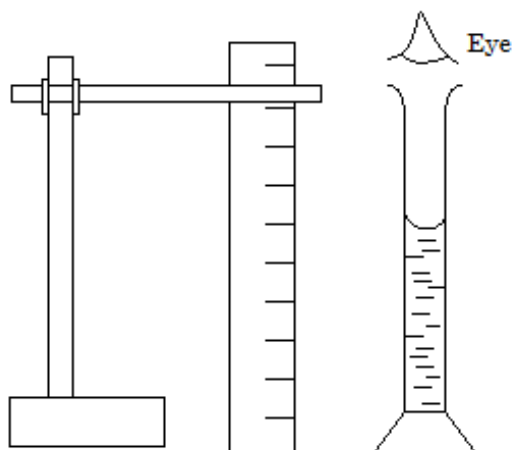

Figure 2
- (a) Arrange your apparatus as in Figure 2. Put about 150 cm^3 of clear water in the measuring cylinder. Drop an office pin at the bottom so that it rests touching the wall of the cylinder.
- (b) Look in the cylinder from Figure 2. Use another office pin as a search pin, move it up and down outside the cylinder, and locate the image position by no parallax method. Locate the image position of the ruler. Measure and record the depth (H_1) of the image. Measure and record the depth (H_2) of water. Repeat the experiment with 175 cm^3 , 200 cm^3 , 225 cm^3 and 250 cm^3 of water in the measuring cylinder.